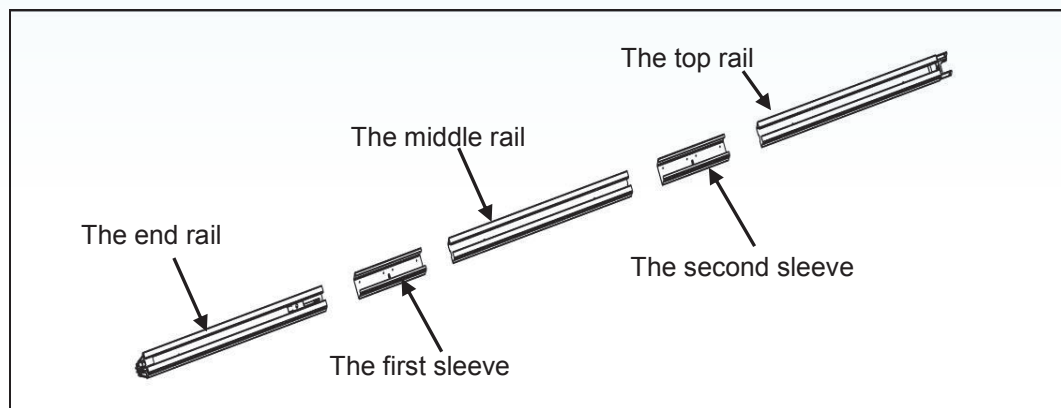

Fig. 11
2. As Fig.11, slide the 2nd sleeve to the other end of middle rail, slide the top rail into the 2nd sleeve;